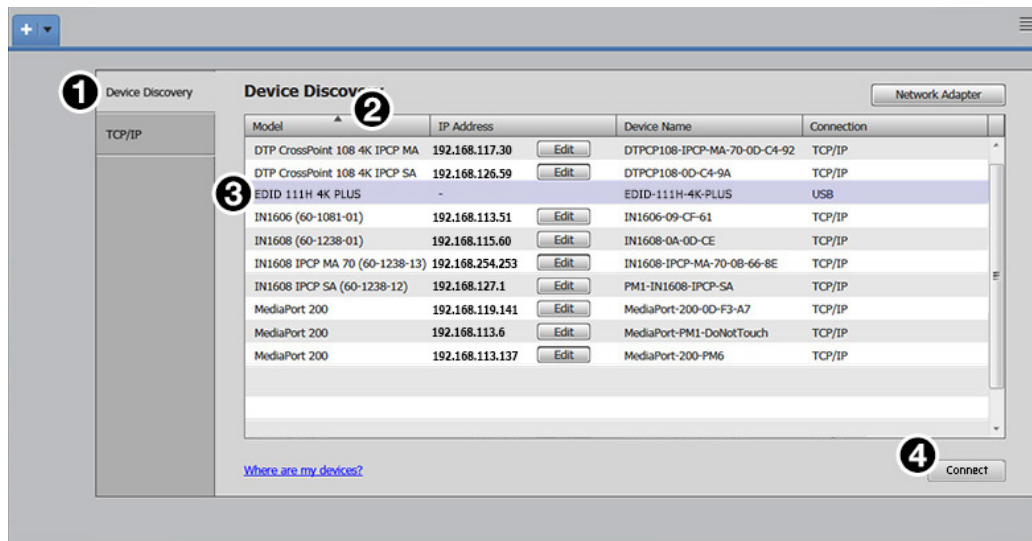

Figure 9. Device Discovery Panel
Open the **Extron Product Configuration** software program from the **Start** menu or desktop shortcut. PCS opens to the **Device Discovery** page (see figure 9).
- Click the **Device Discovery** tab (see figure 9, ❶).
- Click the desired column heading (❷) to sort the desired category (**Model**, **IP Address**, **Device Name** and **Connection**) in ascending or descending order.